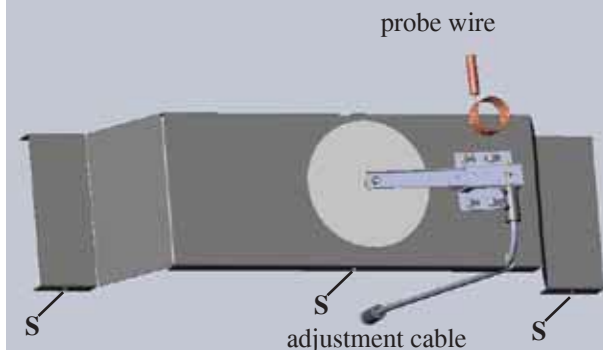

fig. 6
- Install the pre-assembled thermostatic valve on the fixing plate (fig. 6 - pg. 28).